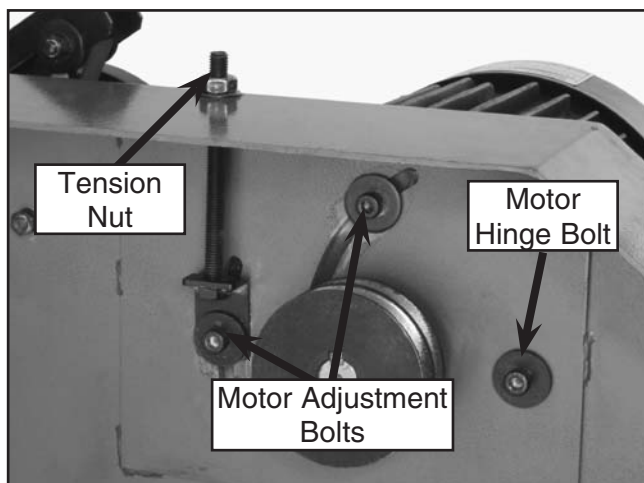

Figure 49. Motor mount bolts and tension bolt.
3. Loosen the motor adjustment and hinge bolts shown in **Figure 49**.
3. Loosen the motor mount bolts shown in **Figure 49**, then turn the tension bolt counterclockwise, and pull the V-belts off.